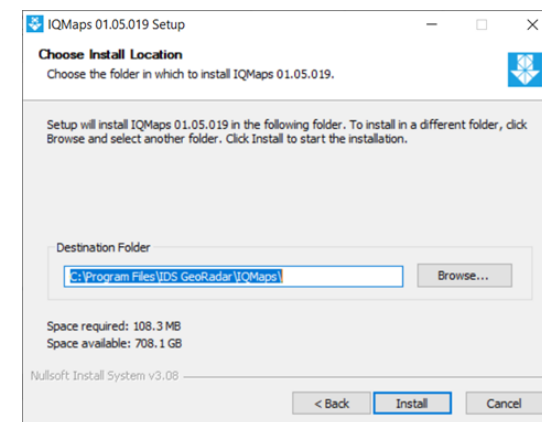

Fig. 6 IQMaps install Step 2
3. Select the installation folder in the window of Fig. 6 and then click on **Install**,